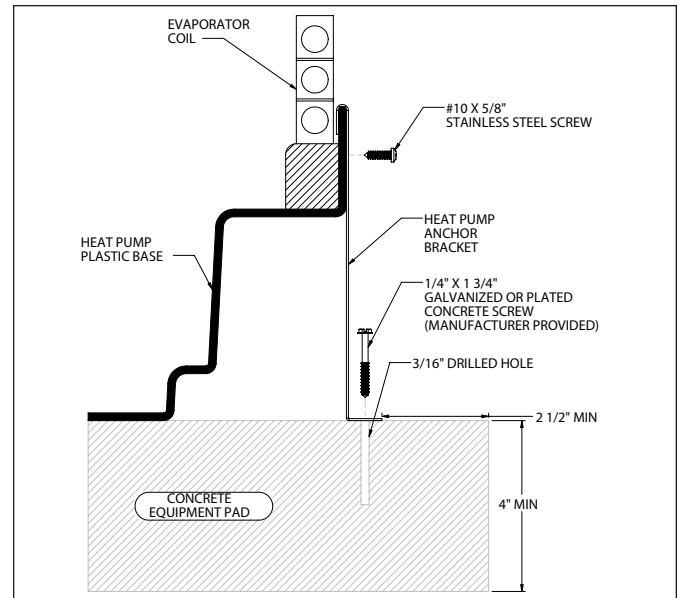

Figure 3. Anchor Clamp Installation
3. Fit the hook of each clamp over the lip on the base panel of the heat pump. The hook should fit between the lip of the base panel and the evaporator coil guard (see Figure 3).
7. Position the anchor clamps so that the holes in the clamps are over the bolt anchors. Be sure that the clamp hooks are over the lip of the heat pump base (see Figure 3).